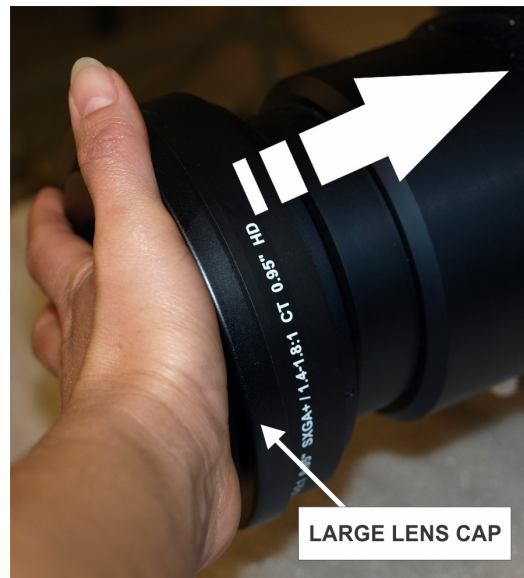

FIGURE 2-2
- Align the lens interface plate with the lens mount. Align the lens electrical connector with the mating connector on the lens mount. Fully insert the assembly straight into the lens mount opening without turning. Press using your hand as shown in *Figure 2-2*. **NOTE: When installing the lens, ensure that the lens is not inserted at an angle, as this can cause damage.**